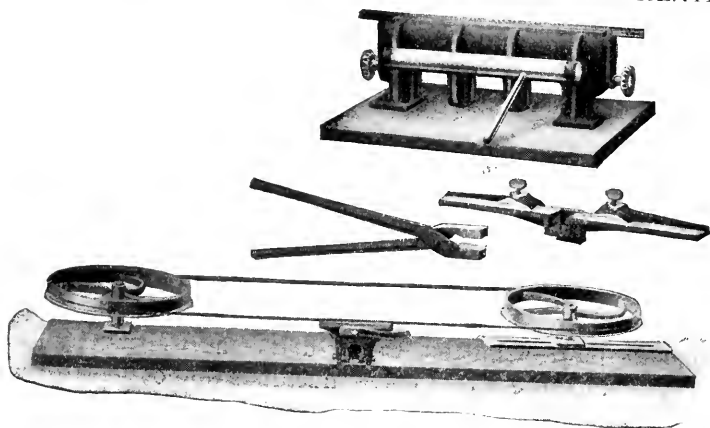
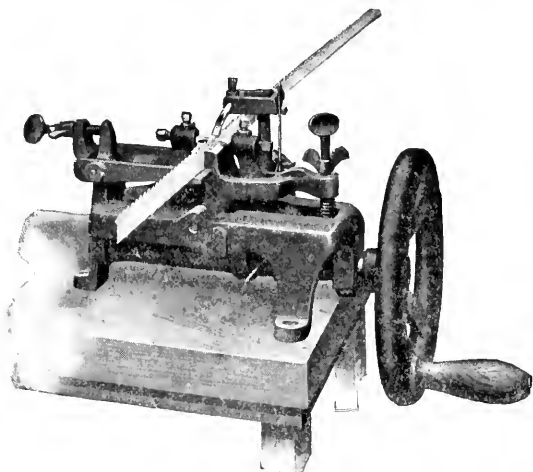

Fig 41 WHEELS AND CLAMP FOR HAND FILING. (LARGER SCALE VIEW OF CLAMP AND BRAZING TONGS AT TOP.)
Fig. 42. NARROW BAND SAW
**43. Setting and Filing--** When small band saws are set by hand the process is very much like that of setting and filing an ordinary cross-cut hand saw. But to do this conveniently, it is necessary to have two large wheels (either wood or metal) and a vise, Fig. 41, on which to hold the band saw while fitting. The more common method however, is to use a machine for setting and an automatic machine for filing. A narrow band saw setting machine is illustrated in Fig. 42. This machine sets all of the teeth uniformly and may be adjusted to set saws  $\frac{1}{8}$ " to  $1\frac{1}{2}$ " in width with the teeth spaced 1-16" to  $\frac{5}{8}$ ". The vise automatically grips the blade while the teeth are being set and prevents in this way the twisting of narrow saws.
This machine is intended for a power drive or may be arranged to drive by hand. It will take saws of the same specifications as the setting machine in Fig. 42.